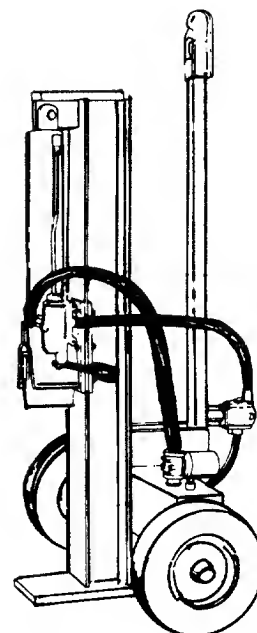

FIGURE 17.
4. The tongue can be removed and reattached in an upright position as shown in figure 17 to take less space when storing.